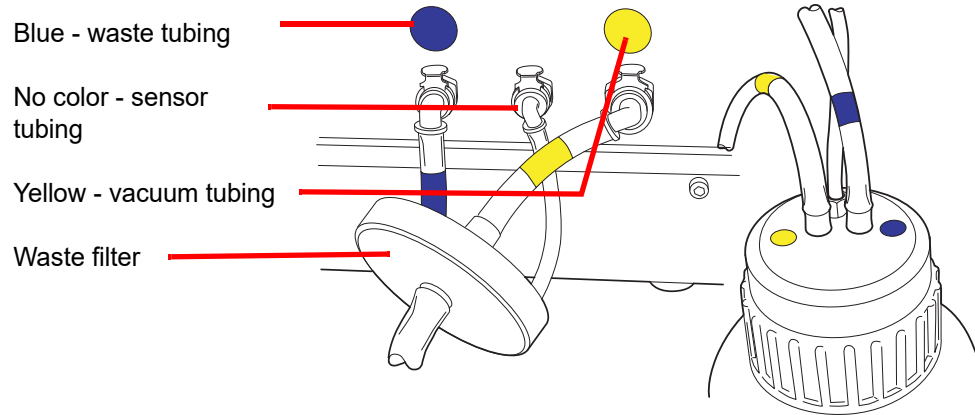

Figure 8-16 Waste Bottle Tubing Connections
3. Locate the three waste bottle connections at the rear of the ThinPrep 5000 processor. Refer to Figure 8-16. Ensure that the buttons of the connectors are in the down/inward position.